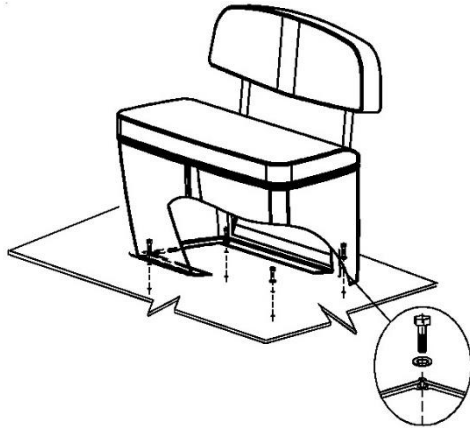

Fig. 10. Installation of container.
- Fix container to the deck by means of bolts M8*25 and toothed lock washer (fig. 10).